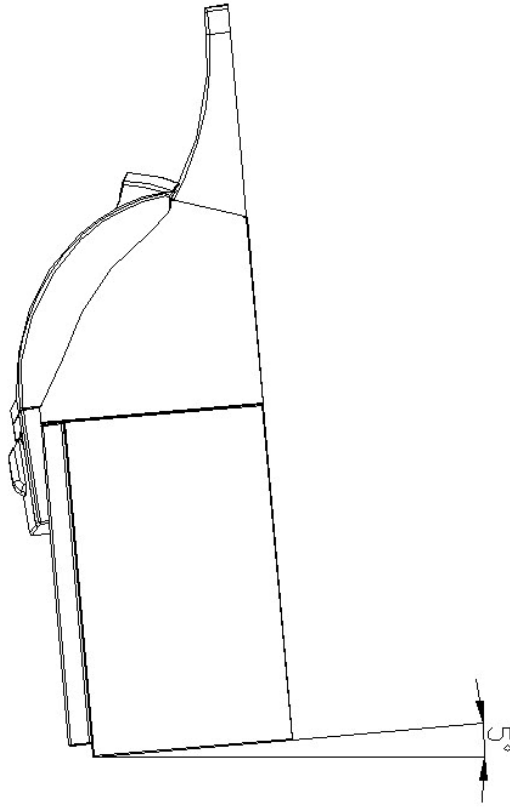

Fig. 7.7 Making a surface level of ATM
- 2) Place the system on a flat surface, the system has a tendency to tip over if the surface is over 5 degrees. (refer to Fig 7.7) Be careful when opening the top or bottom of the machine s it will be off balance